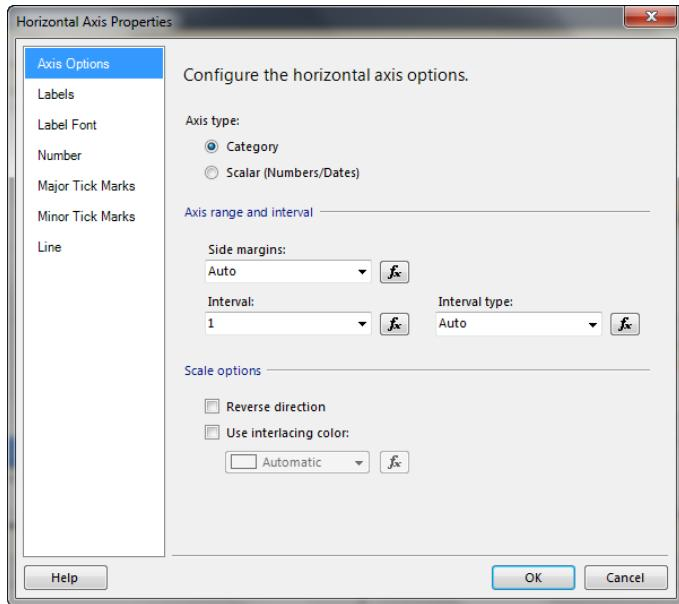

Figure 6-7
3. Since calendar months are self-explanatory, you do not need the additional noise from a title for the horizontal axis. Select the horizontal Axis Title as seen in Figure 6-7 and click Delete.